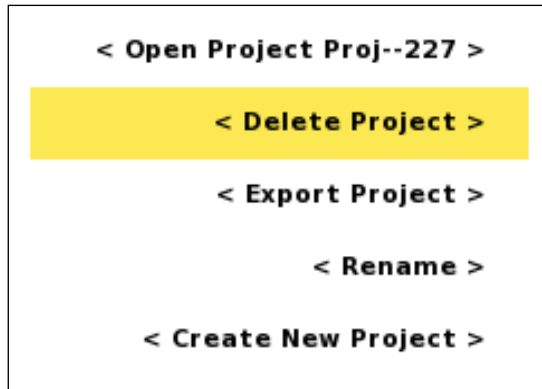

Figure 95 Project options menu
- Highlight <Delete Project> (Figure 95, overleaf)